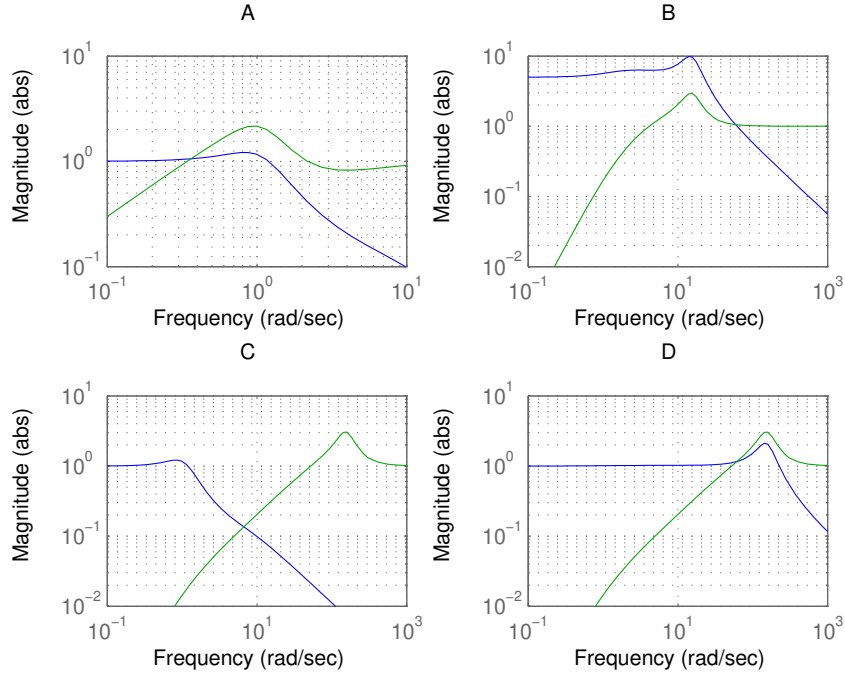

Figure 14.3 Magnitude plots of S and T in problem 6.
- c.** Figure 14.3 shows four plots, where one of the plots shows the sensitivity and complementary sensitivity function of a closed-loop system discussed in **b**, with $\omega_0 = 1$ and a particular choice of $C_2(s)$. Which plot?